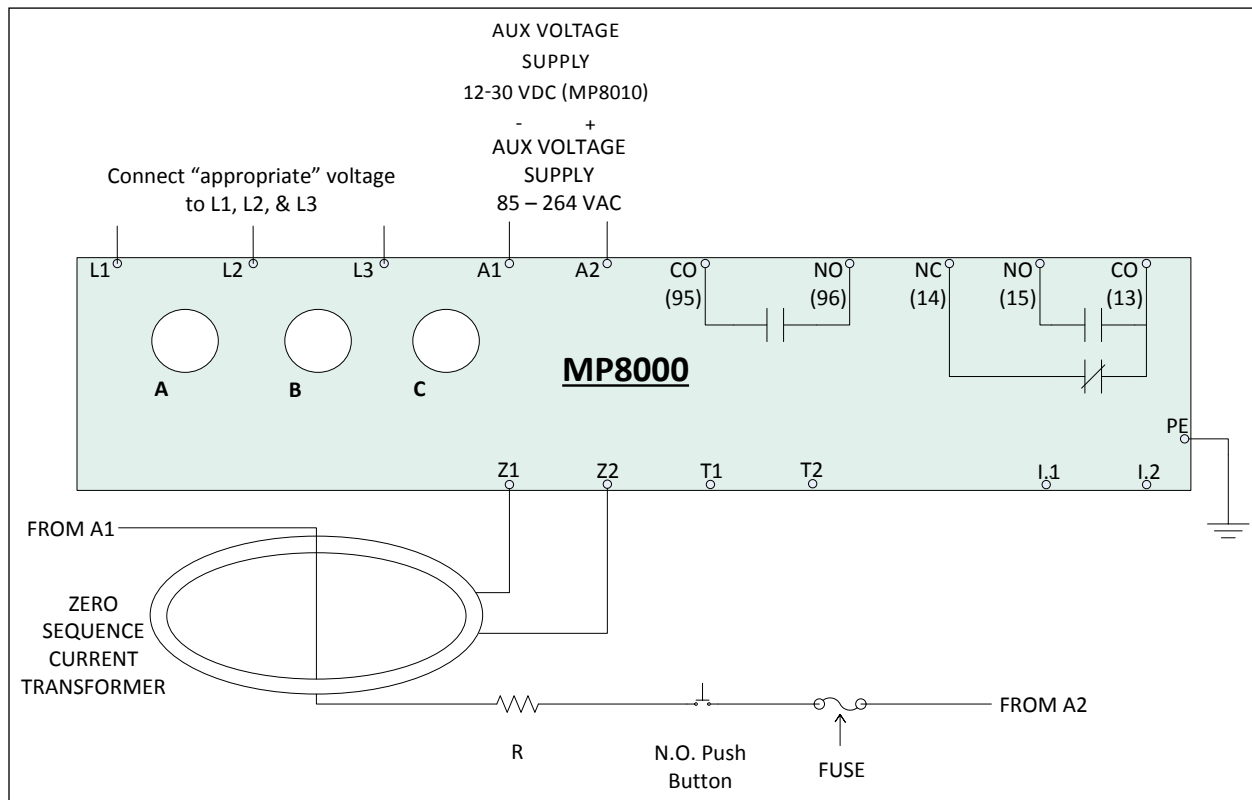

Figure 7.1 Ground Fault Testing
2. Connect L1, L2, L3, A1, A2, Z1, Z2, as shown in Figure 7.1. The ground fault testing can be done with or without the motor running.